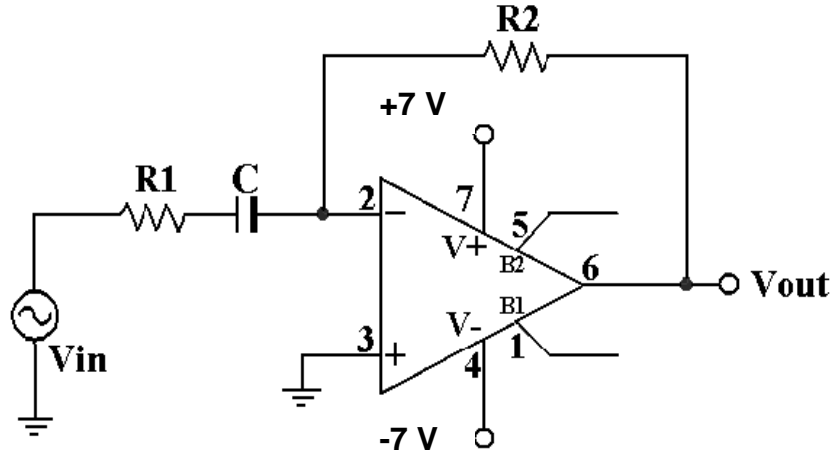

Fig 4. First order high pass filter (pseudo-differentiator) circuit
The output is proportional to the derivative (s term) thus the output voltage increases monotonically as the frequency increases. Fig. 4 shows the circuit configuration for a commonly used pseudo-differentiator or high pass filter.
4. For the first order high-pass filter shown in Fig. 4 with power supplies  $\pm 7V$ , and assuming the Opamp is ideal, derive the time-domain equation of the output in terms of the input. Show that the circuit performs the function of a differentiator.